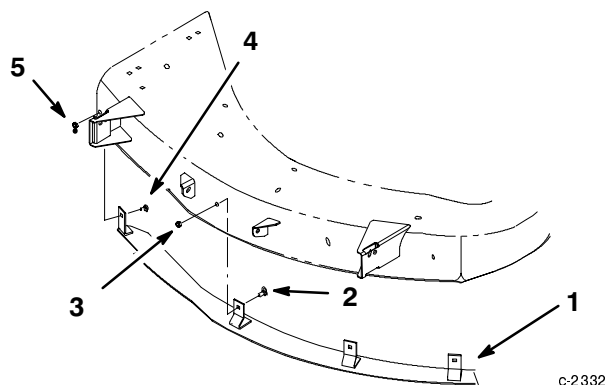

Figure 32
1. Remove the grass baffle inside front lip of mower (Fig. 32).